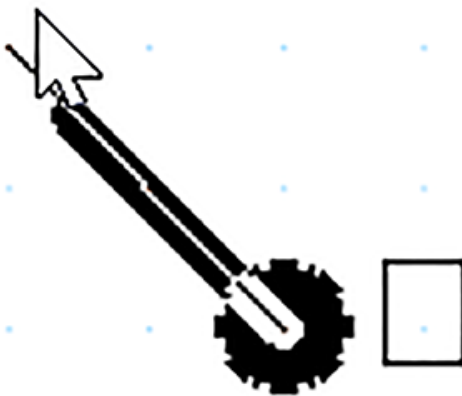

Figure 3. Voltage-level Probe
2. Choose PSpice – Markers – Voltage Level. The Voltage-level probe sticks to the cursor, as shown in Figure 3.